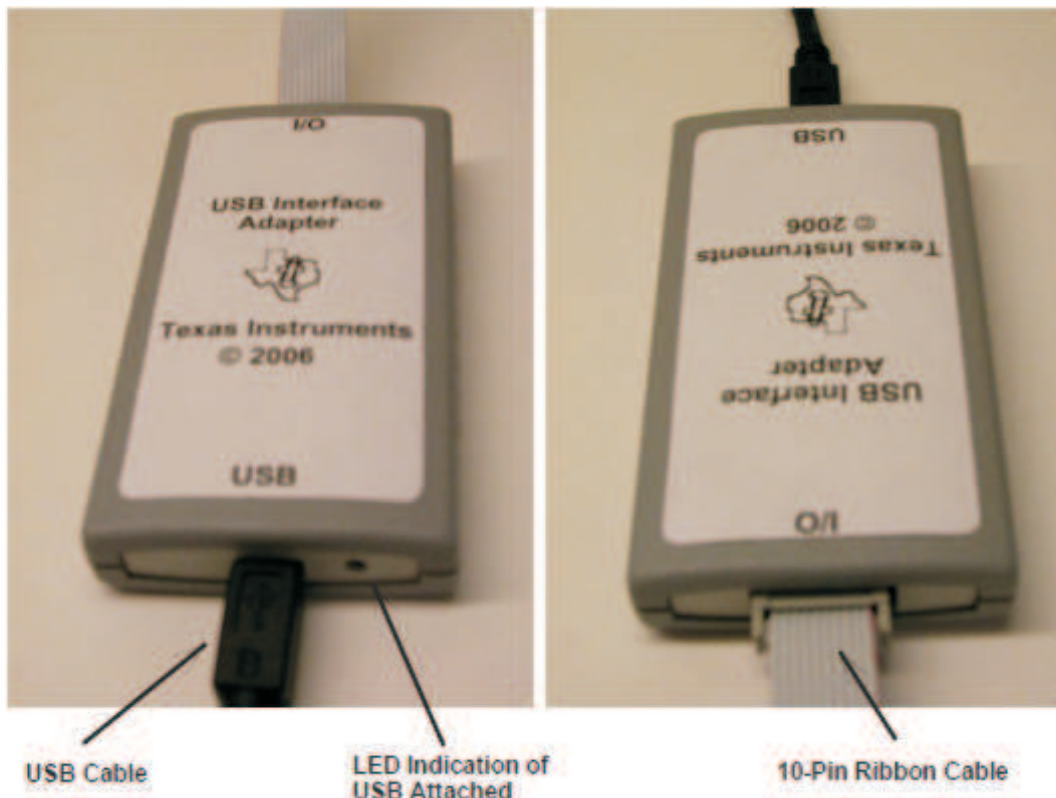

Figure 3. USB-to-GPIO Adapter
- **Host (PC):** a Windows™ personal computer (PC) – used to configure and monitor the DRV201AEVM. The GUI operates on the host. For the GUI to execute properly, the host needs to have the correct LabView™ RunTime version. If the host doesn't have the correct RunTime version it will be prompted during GUI installation. More information in GUI installation section.
- **USB-to-I²C adapter:** DRV201AEVM uses the I²C interface for communication with the host. The TI-supplied USB-to-I²C adapter shown in Figure 3. USB-to-GPIO adapter does the appropriate conversion so the host can use the USB interface for communication. USB-to-I²C adapter has a 3.3-V supply rail which is used to supply the EVM so no external power supply is needed.